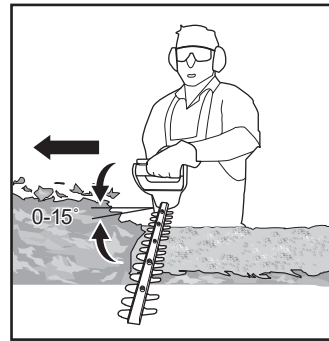

Fig. 7
6. After cutting the sides proceed to the top. Try to keep the cutting device angled at approximately 15° to the cutting surface (Fig. 7).